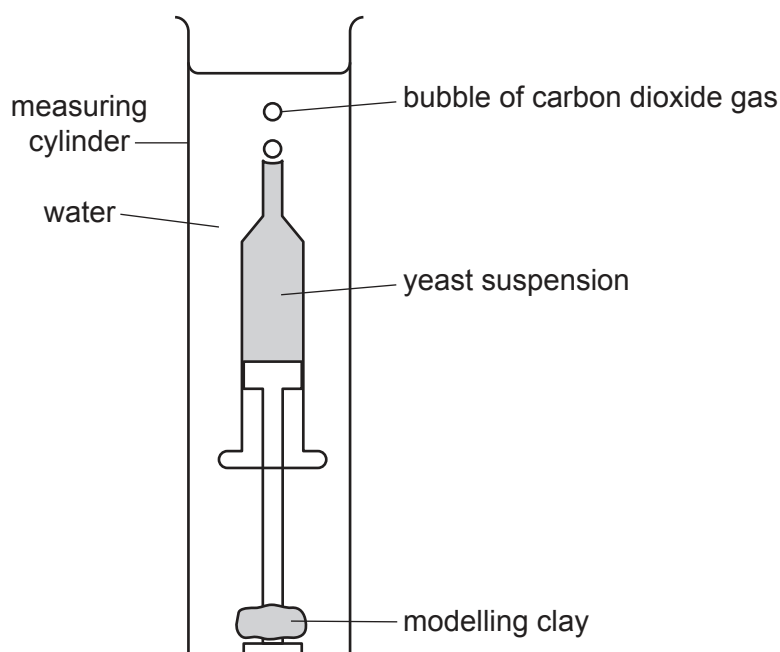

Fig. 1.2
- Step 3 Gently lower the syringe into the measuring cylinder, as shown in Fig. 1.2. If necessary, reshape your modelling clay so that it fits inside the cylinder but do **not** remove any modelling clay.